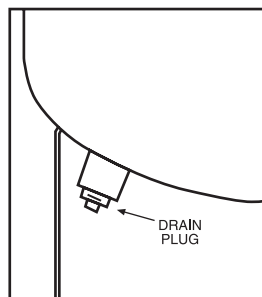

Figure 2
4. Remove drain plug (Figure 2).
23. Install drain plug (Figure 2) using a liberal amount of TITE-SEAL COMPOUND 55 or equal. This connection must be absolutely airtight.